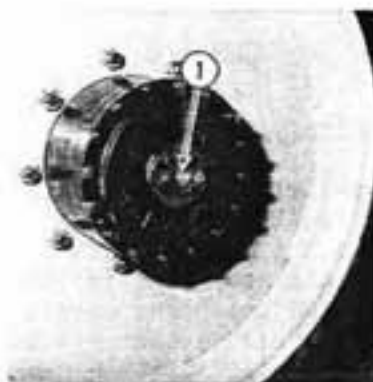

Figure 1
2. Disengage the torque hubs by removing two outer cap bolts, turning the outer cap with the extended center in toward the hub and re-installing the two outer cap bolts. This process pushes on a spring-loaded splined shaft, disengaging the torque hubs (Figure 1).